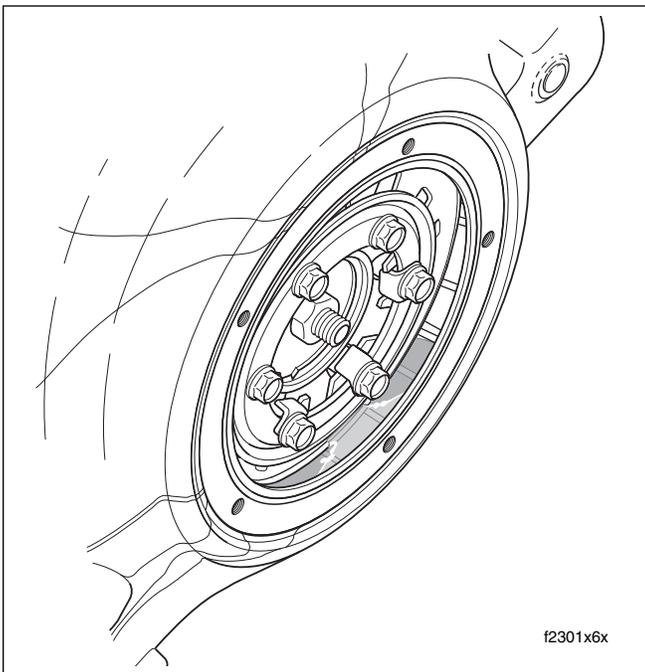

Figure 6-33. Add Primary Chaincase Lubricant
24. Pour 32 ounces (946 ml) of Harley-Davidson **FORMULA+ TRANSMISSION AND PRIMARY CHAINCASE LUBRICANT** through the clutch inspection cover opening, Part No. 99851-05 (quart). See Figure 6-33.